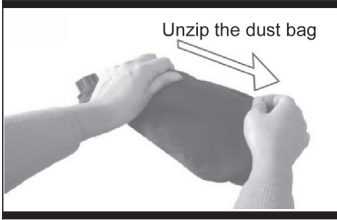

Fig 8
6. CLEANING DUST EXHAUST OUTLET AND EMPTYING THE DUST BAG (see fig8)